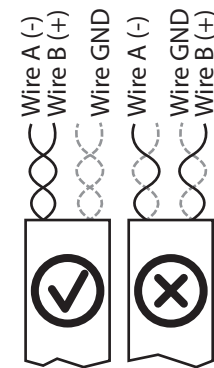

Figure 38: Assignment of twisted-pair wires
- When connecting wire + and wire -, observe the wire pairing (Figure 38)